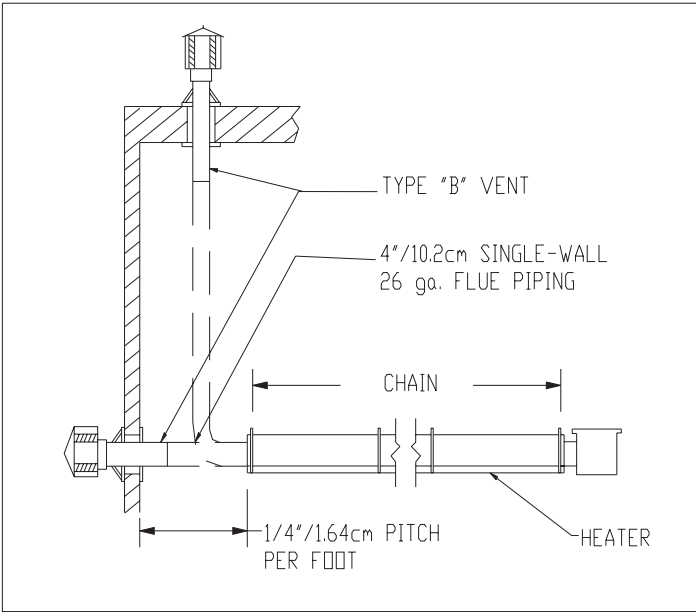

Figure 2.8.5
- \* Horizontal flues should be pitched down toward outlet, 1/4 in./64cm per ft. of vent length, to prevent rain from entering the heater (see Figure 2.8.5). Do not pitch heater.